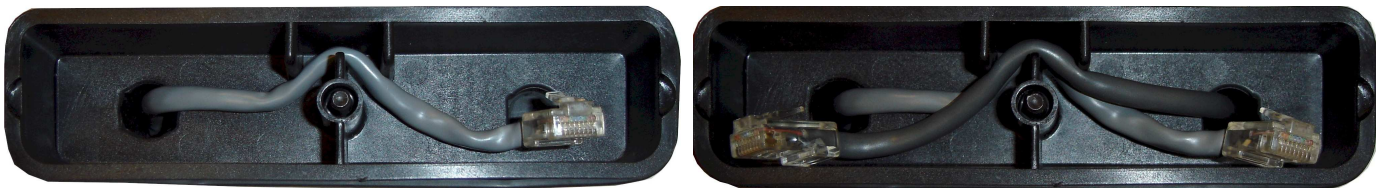

Figure 8: Face Plate Cover Strain Relief
9. Route the CAT-5e Ethernet cable through the molded strain-relief fins in the Face Plate Cover (Figure 8) to secure the cable and provide strain-relief for the connector. If a second Ethernet cable is installed, remove the second port cover and route cable.